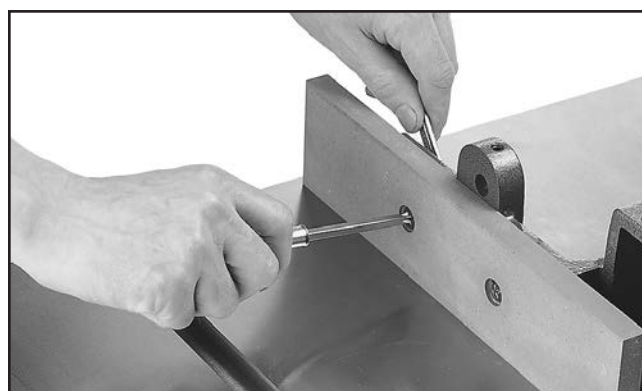

Figure 24. Attaching wooden fence assembly.
3. Secure the wooden fence pieces with the (4) $\frac{5}{16}$ "-18 x 1 $\frac{1}{2}$ " flat head screws, flat washers and hex nuts provided, as shown in **Figure 24**.